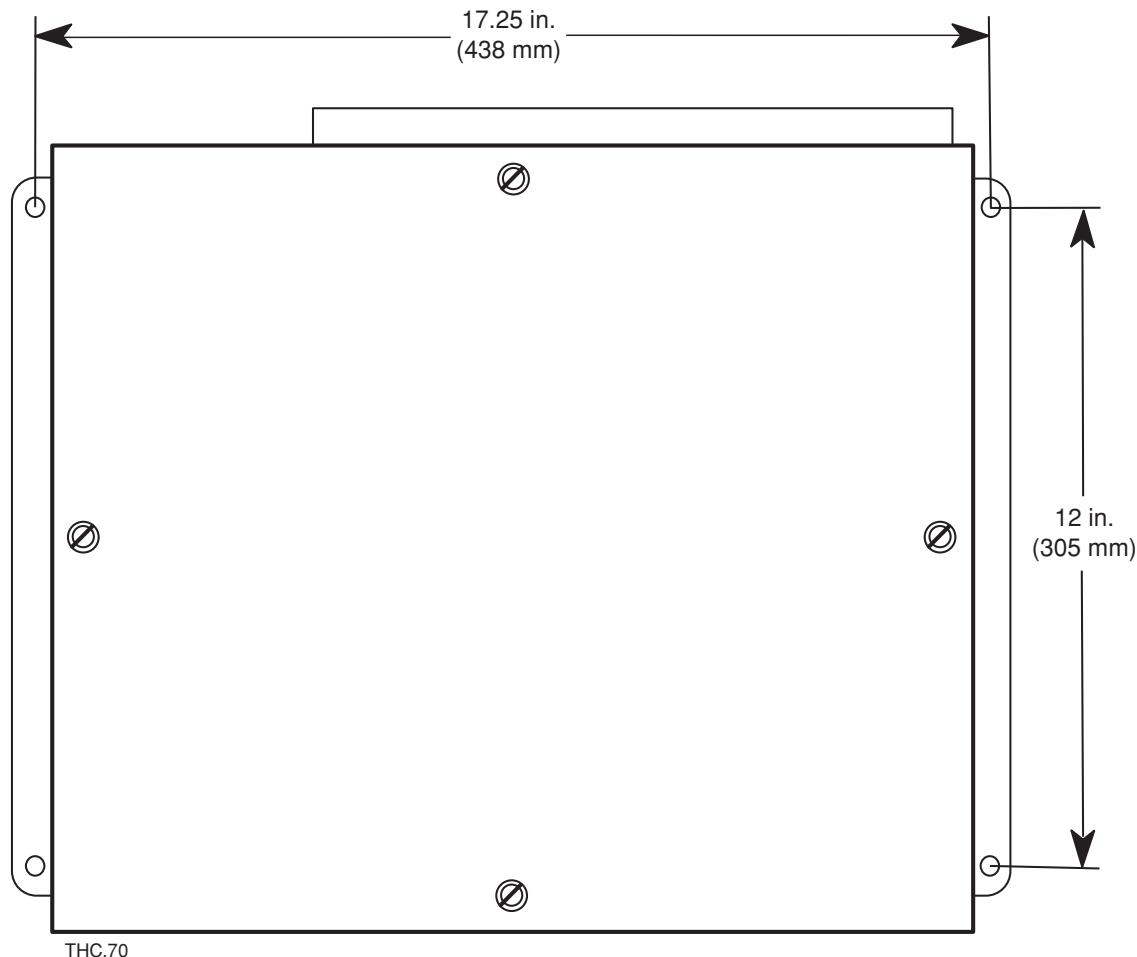

Figure 3-1 THC control module mounting
- Mount the THC control module close to the CNC controller for easy access to the THC system power and to provide easy access for routing and connecting cables. The unit can be mounted in any position except with the power module (AC receptacle and switch) facing up. The 4 mounting holes, requiring 1/4-inch (6 mm) fasteners, are provided. See Figure 3-1.